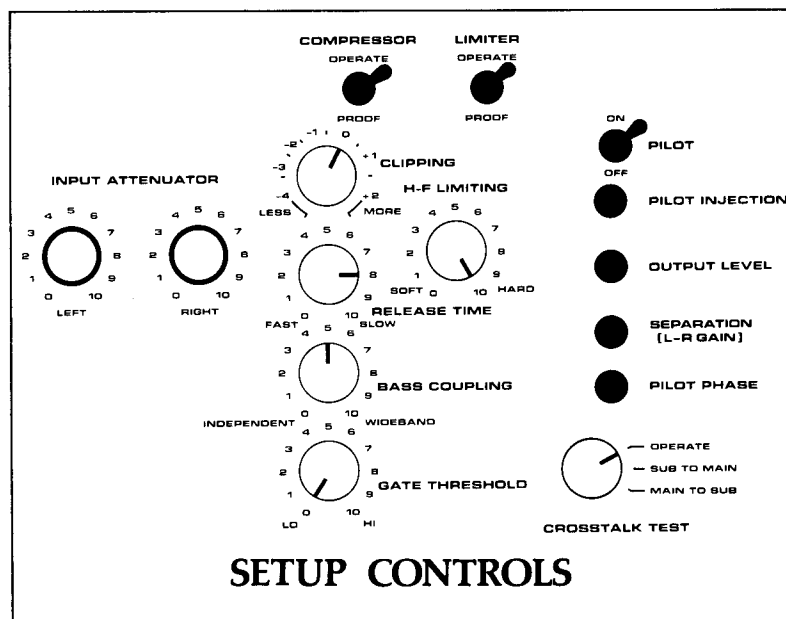

Fig. 4-5: Setup Controls
a) Adjust OPTIMOD-FM controls according to Fig. 4-5. DO NOT adjust the OUTPUT ATTN and INPUT ATTN controls at this time. If you have a dual-chassis system, DO NOT READJUST THE TRANSMITTER CHASSIS INPUT ATTN CONTROLS UNDER ANY CIRCUMSTANCES!